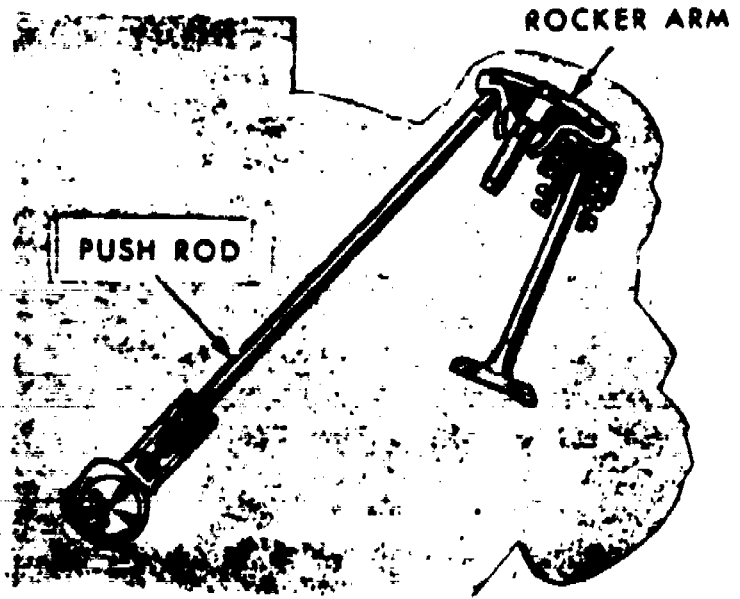

Figure 7. Push Rods and Rocker Arm Linkages.
In order for an engine to run continuously, some method of getting an air-fuel mixture into the cylinder, and getting the burned gases out is needed. This is the function of the valves and valve operating mechanism. Two valves are used for each cylinder. One is called an intake valve and it admits the air fuel mixture into the cylinder; the other is called an exhaust valve and it allows the burned gasses to escape after combustion has taken place. Both valves must be tightly closed when the air fuel mixture is compressed, and during combustion, so that power is sealed into the cylinder. The valves are held closed by stiff coil springs referred to as valve springs. The valve itself sits in a circular opening called a valve seat. Figure 5 illustrates a typical automotive valve and the names of the different areas of the valve. In order to open the valves at the correct time a camshaft is used. This shaft has small lobes on it and as it rotates, the lobes lift the valve open through a series of mechanical linkages. Figure 6 illustrates the valve lifter or tappet (which may be either the solid or hydraulic type). On some engines these linkages may include push rods and rocker arms, figure 7. The operation of the valves must be synchronized with piston movement so that, (1) the air-fuel mixture is let into the cylinder at the right time, (2) the valves remain closed for compression and power, and (3) the exhaust gasses are let out of the cylinder after the power stroke. This is accomplished by putting gears on the camshaft and crankshaft. These gears are either meshed directly or through a timing chain. Each timing gear has a reference mark